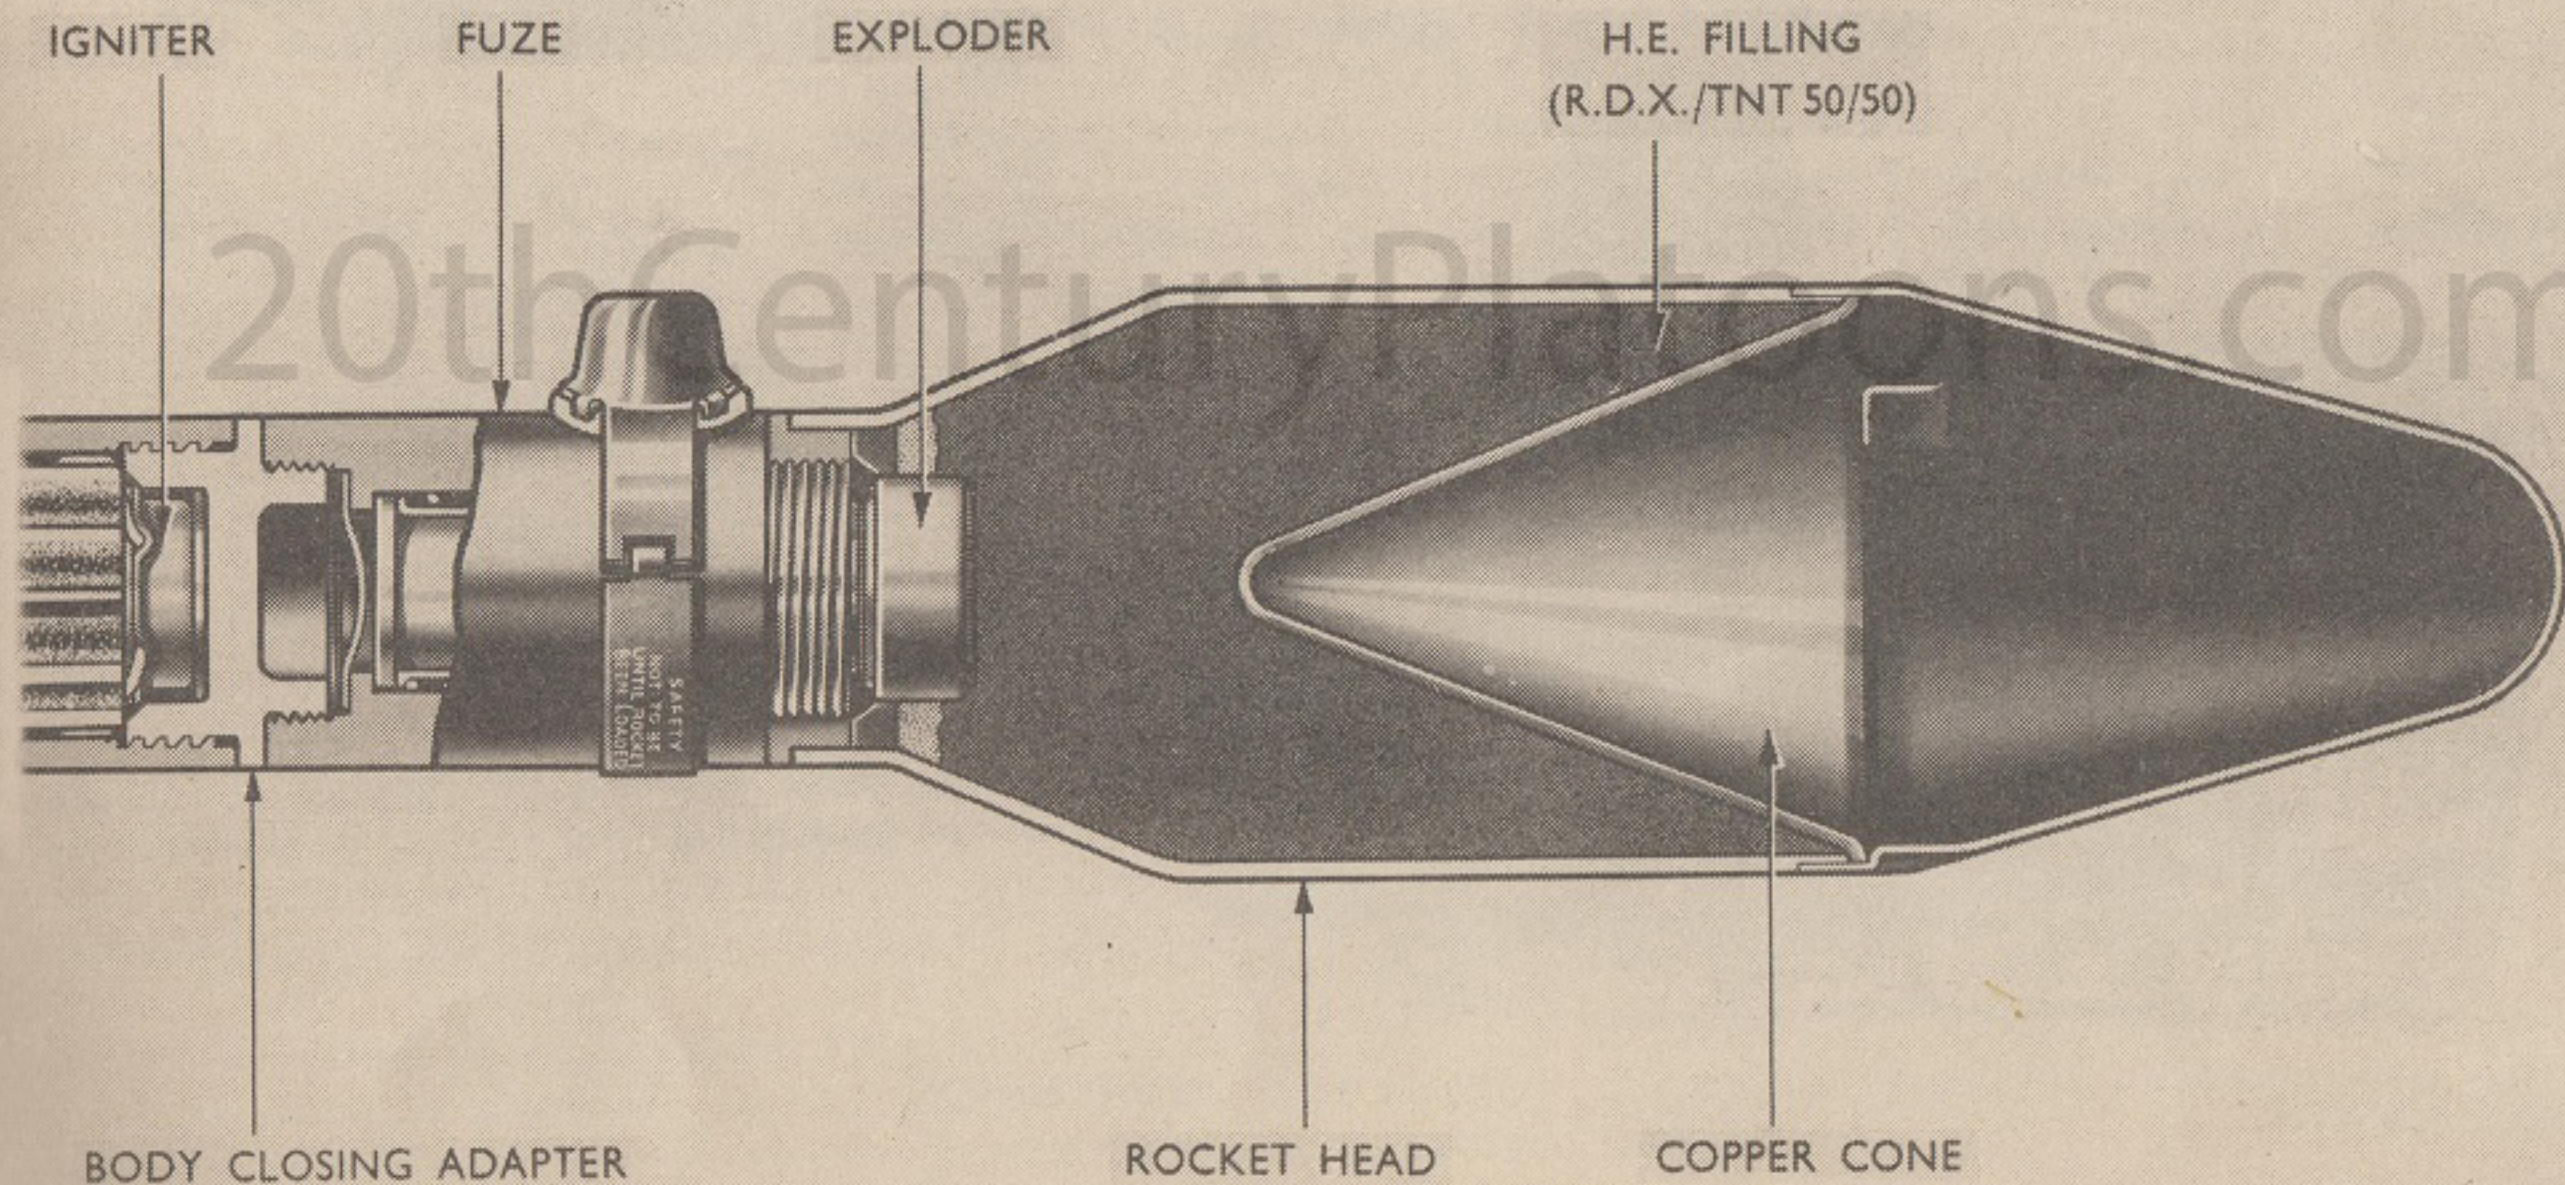

Fig. 15 Rocket, H.E.A.T. 3.5 inch
22.0. The head (Fig.15) is of steel, cylindrical in shape with a diameter of 3.5 inches. The front is shaped to form a ballistic head and at the rear, it tapers to a 2 inch diameter. The head contains an internal copper cone which shapes the H.E. filling. The rear of the rocket head is fitted with a base which is threaded internally for attachment of the fuze.